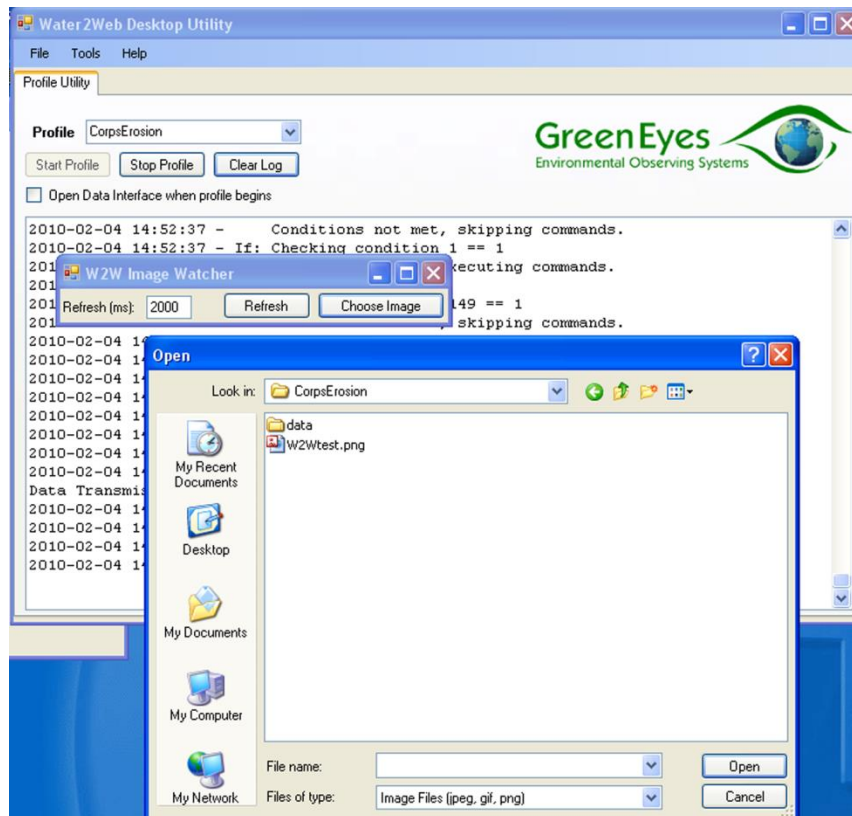

Figure 2.4.2 - Opening Image Watcher and selecting image file.
2.4.7 Open Image Watcher. From the tools menu in the Desktop Utility select “Image Watcher”. In the Image Watcher window select “Choose Image” and then select image file “W2Wtest.png” from your profile directory (see fig 2.4.2). If you started with a fresh “Datafile.txt” file the plot should show the plot of turbidity and motor speed from the time the experiment was started by checking the “Run” and “Data Collect” boxes, see fig 2.4.3 (note: If the data file still contained data from a previous experiment then that data will also display on the plot). The x-axis range on the plot is 1800 seconds so that it will scroll to a new plot every 30 minutes of elapsed time during the experiment. If it becomes necessary to restart an experiment the elapsed time counter will be reset and will only reflect the time since the experiment was restarted and the plot will overlap the previous data. In this case be sure to use the time stamp (column 1) in the “Datafile.txt” to determine elapsed and step time for post-processing. Arrange the windows on your desktop so that you can see the data interface, image watcher, and ComScript desktop utility.